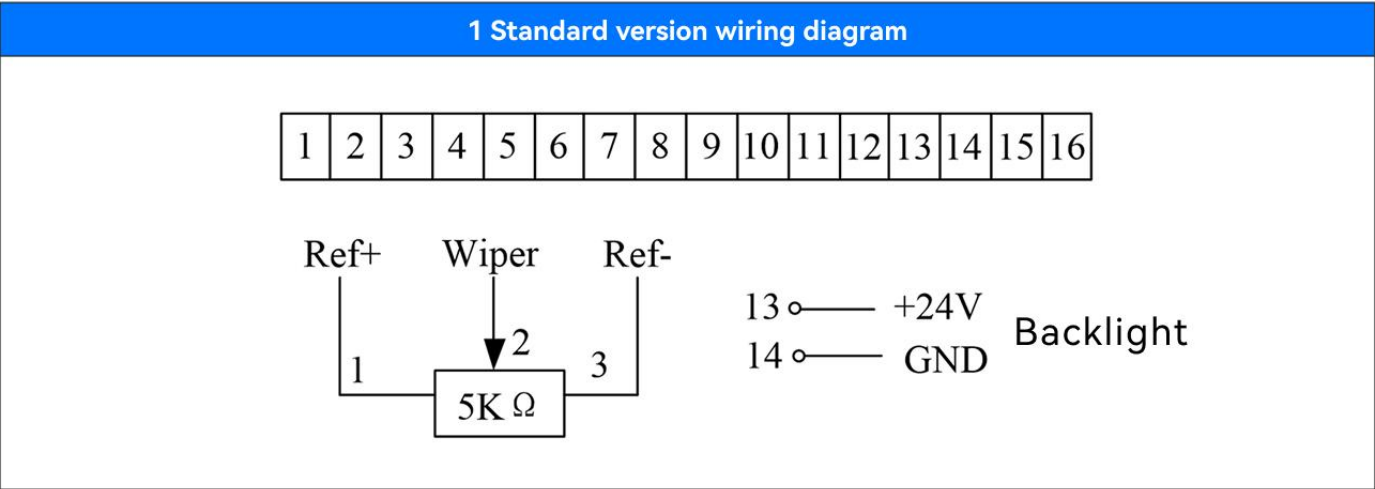

Figure 1.5
- The other terminals are left empty for future use, as shown in Figure 1.5.